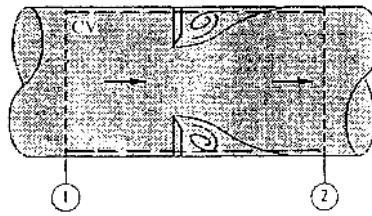

Fig. P3.85
- 3.85** The thin-plate orifice in Fig. P3.85 causes a large pressure drop. For 20°C water flow at 500 gal/min, with pipe  $D = 10 \text{ cm}$  and orifice  $d = 6 \text{ cm}$ ,  $p_1 - p_2 \approx 145 \text{ kPa}$ . If the wall friction is negligible, estimate the force of the water on the orifice plate.